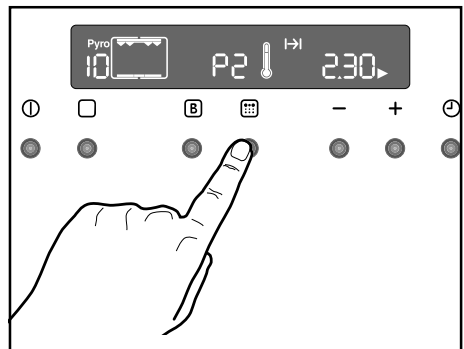

Fig. 20
4. To confirm which pyrolytic function you desire, press button . The writing will stop flashing and the symbol  will disappear, the acoustic signal will stop, the oven lamp will switch off and the pyrolytic cleaning cycle starts (Fig. 20).